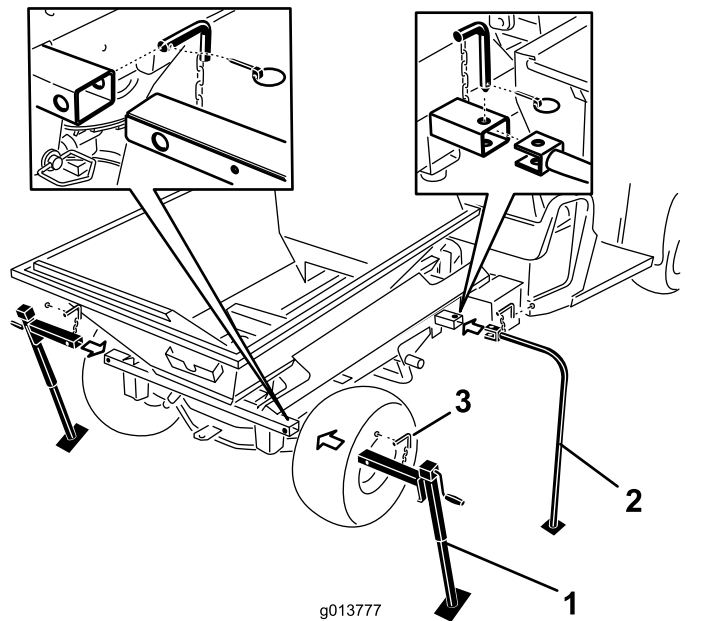

Figure 51
7. Insert the front storage legs and the rear jack stands into the machine tubes and secure them with the locking pins (Figure 51).